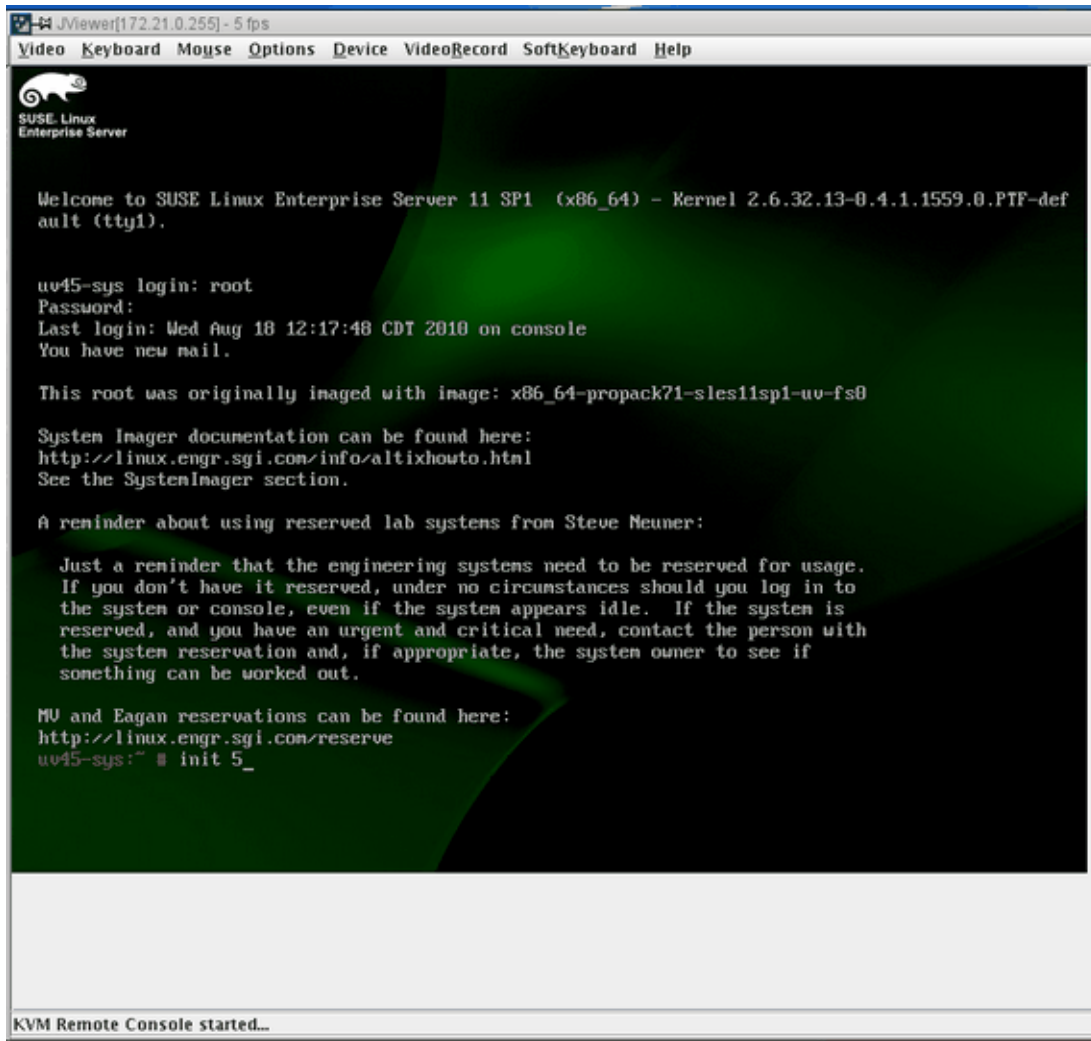

Figure 3-10 JViewer Operating System Login Screen
13. The operating system login screen appears. At the prompt enter **init5**, as shown in Figure 3-10 on page 47.